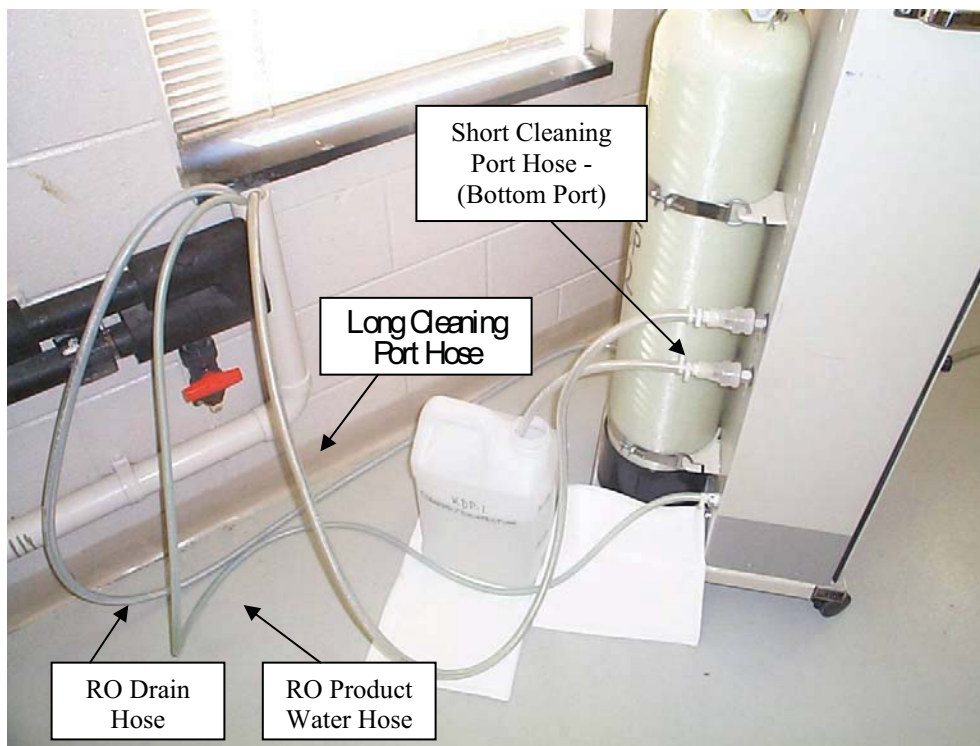

Figure 1
7. **Refer to Figure 1** Connect the Long Cleaning Port Hose to the Upper Disinfection Port on the back of the RO making sure the connector 'SNAPS' on. Put the free end in the drain.